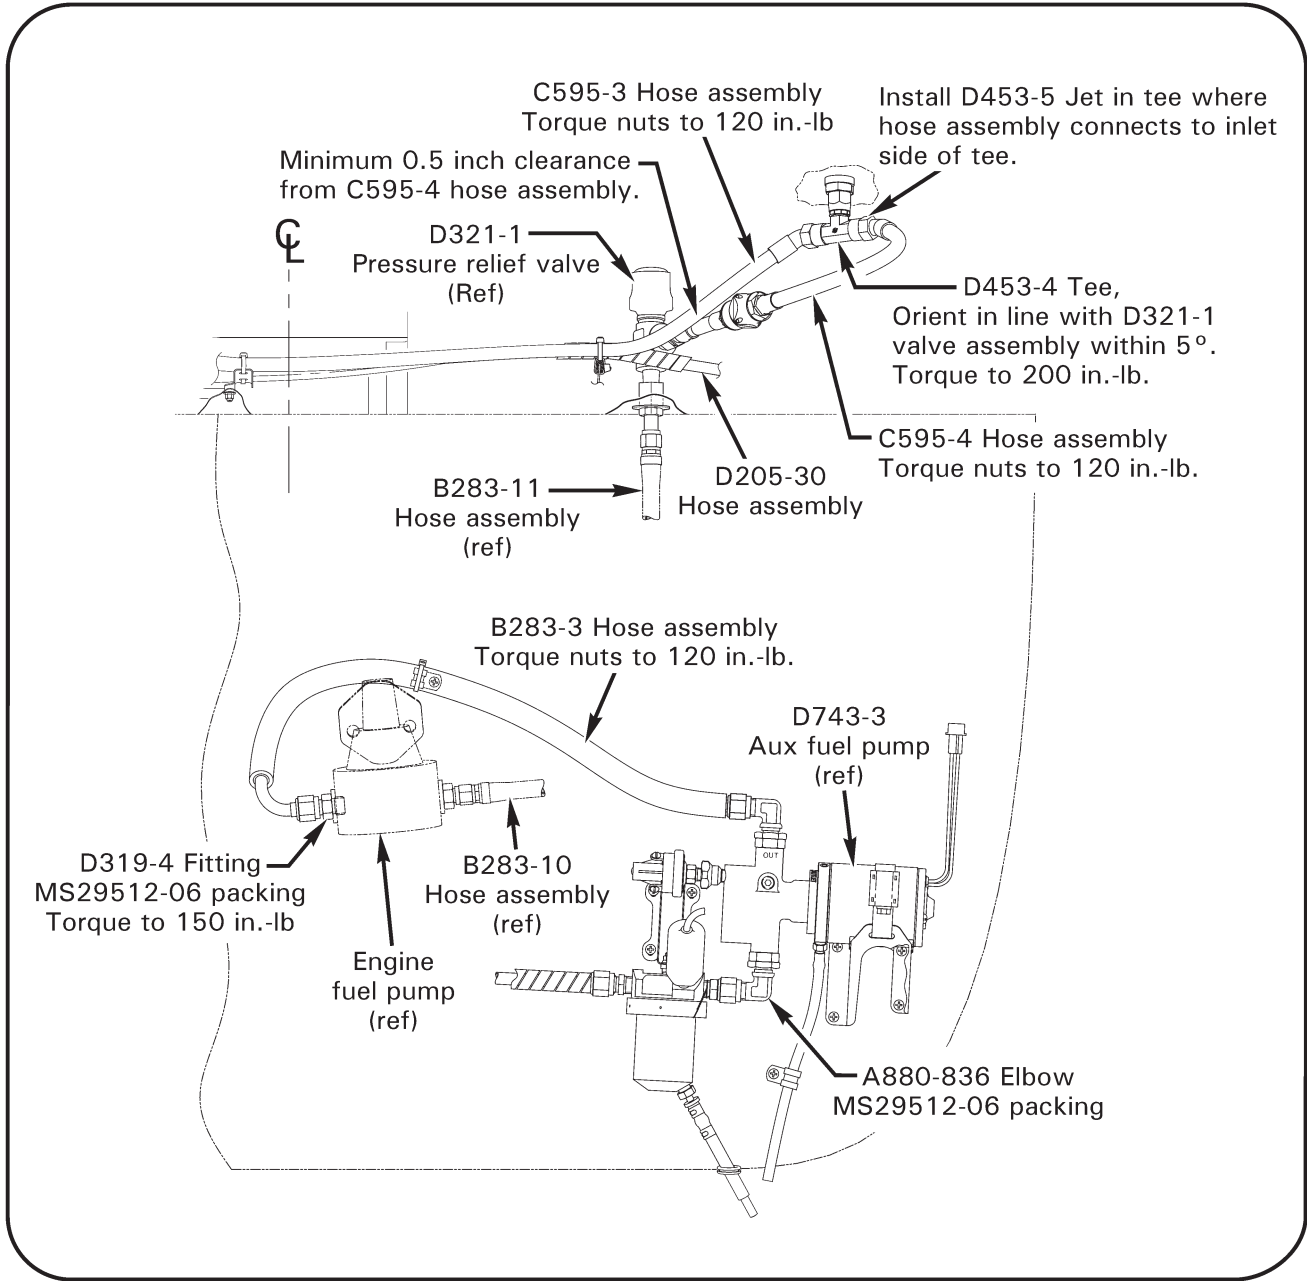

FIGURE 4 R44 II Installation
15. II. R44 II only: Refer to Figure 4 and IPC Figure 28-1.
(view looking forward; R44 II installation same, except as shown in Figure 4)